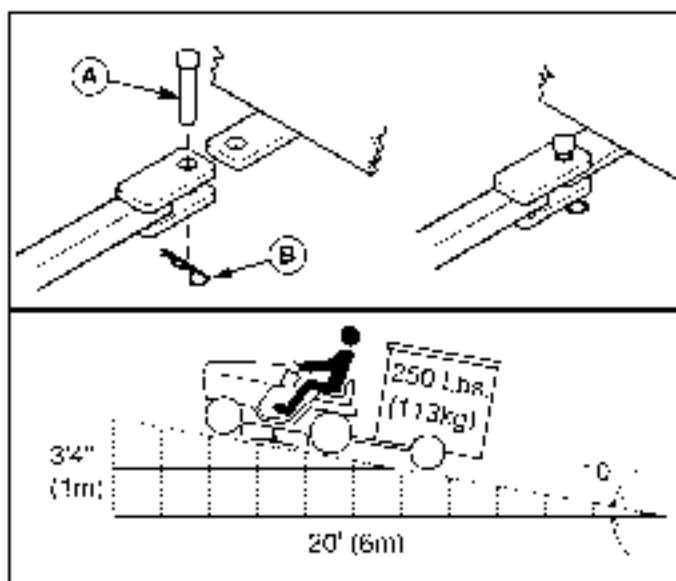

Figure 7. Trailer Weight Recommendations
The maximum horizontal drawbar force allowed is 280 Nm. The maximum vertical drawbar force is 160 Nm. This equates to a 250 lbs (113 kg) trailer on a 30 degree hill. Secure the trailer with an appropriately sized clevis pin (A, Figure 7) and clip (B).